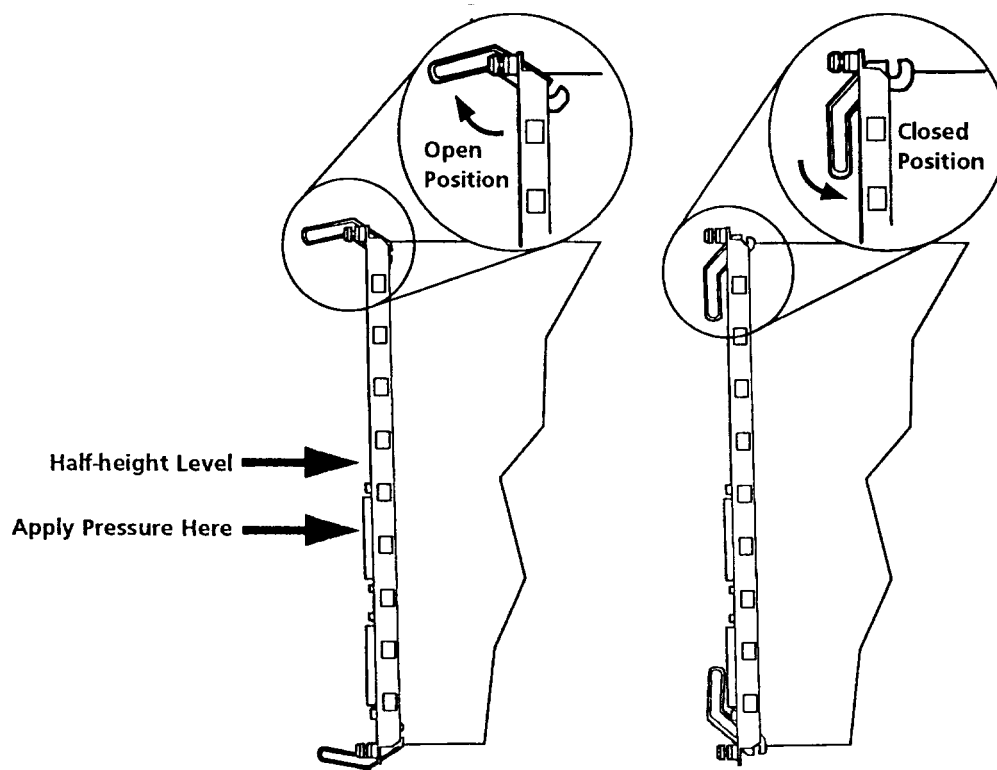

Figure 34. ATM Media Module Ejectors ("Open" and "Closed" Positions)
- To assure proper installation, simply match the left and right card guides as you slide the module cleanly into place. Do not attempt to push the module all the way into the workgroup switch until you have verified that module ejectors are OPEN. (See Figure 34 on page 67.)
- 2 Make sure that both ejectors (left and right) are in the open position before attempting to install the module as shown in Figure 34.
- **4** Slide the circuit board into the slot's left and right card guides. Push the module in at a point to the right of the "half height" level for smoother travel. See Figure 34 on page 67.